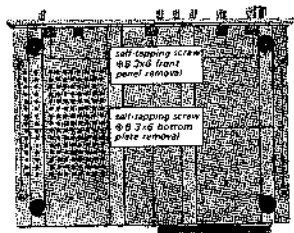

Fig. 2-2. Bottom view
2. Bottom plate can be freed by removing the five self-tapping screws as shown in Fig. 2-2.